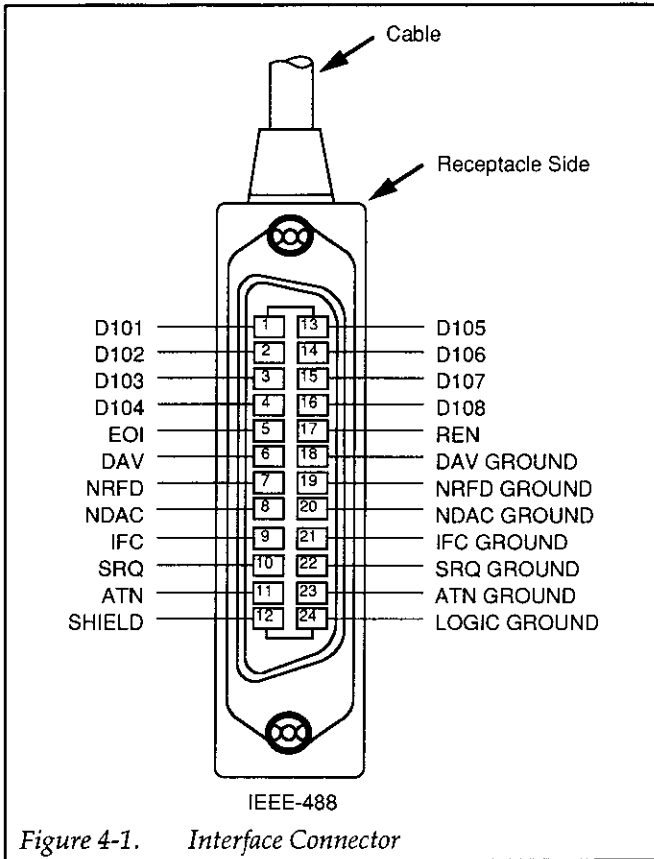

Figure 4-1. Interface Connector
- Interface Connector: See Figure 4-1